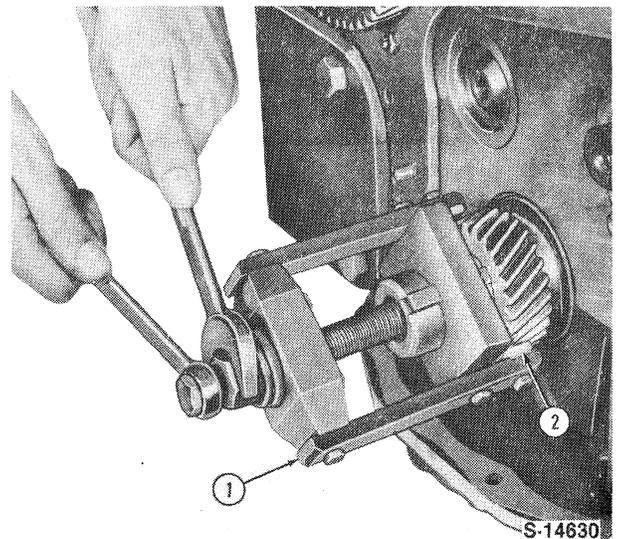

Figure 25
- Locate the key then use Tool No. 2134 and 1237 to install the crankshaft gear, Figure 25.